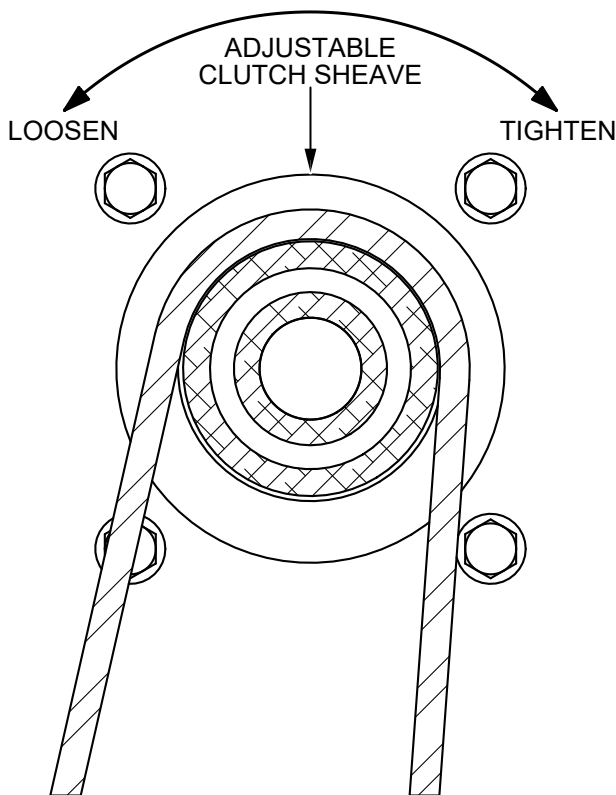

Figure 7. Adjust V-Belt Tension
- Remove all set screws from the adjustable clutch sheave (Figure 7). Set the set screws aside for later.
- Adjust the adjustable clutch sheave (Figure 7) until the belt tension is within 5 to 8 pounds of deflection force with a belt deflection distance of .125 inches. This should be between 1/4 to 3/4 of a full rotation from flush, making sure that the flats are aligned with the set screws. A tension reading closer to 5 pounds of deflection force is preferred for ease of assembly.